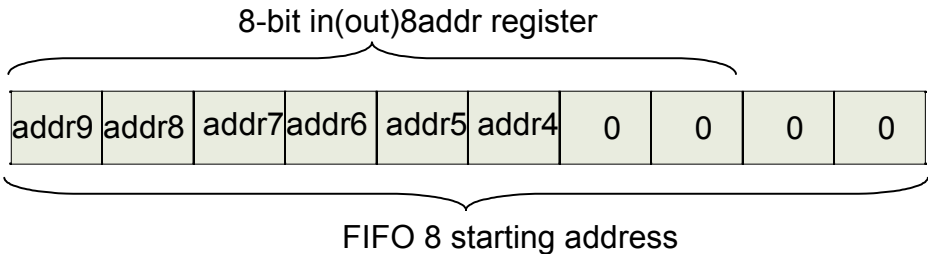

Figure 37. FIFO 8 starting address
**Note:** Only the six most significant bits can be written by the MCU (see Figure 37. on page 79).